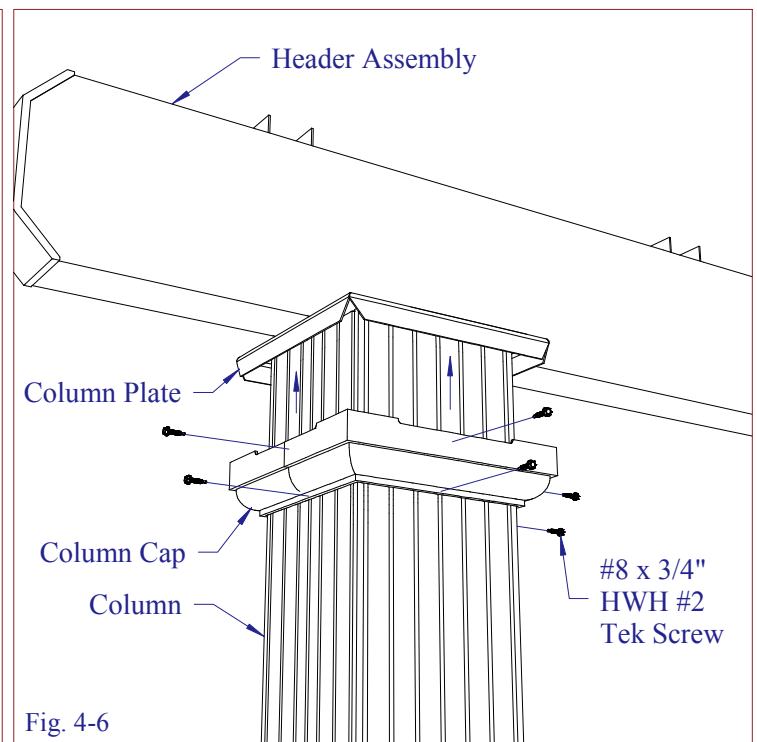

Fig. 4-6
- Push the column cap up until flush with the bottom of the header and attach to the column plate using (4) #8 x 3/4" HWH #2 Tek screws (see Fig. 4-6).
- Attach the column cap to the column using (6) #8 x 3/4" HWH #2 Tek screws as shown (see Fig. 4-6).